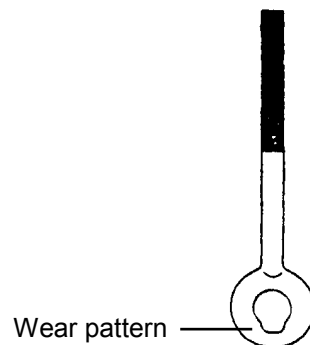

Fig. 1
- Check eye bolt for wear at the point where it rubs against the safety snap. If wear exists, it should not exceed 30% of the diameter of the eye bolt. If it does, discontinue use immediately and replace the eye bolt. (See fig. 1).